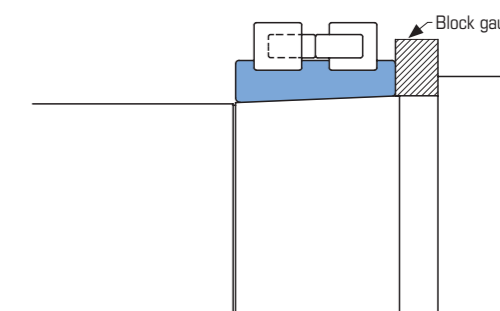

Figure 9.10 Spacer Temporarily Width Dimension Measurement
- Use a block gauge to measure the length to the inner ring edges surface and shaft shoulder (Figure 9.10).